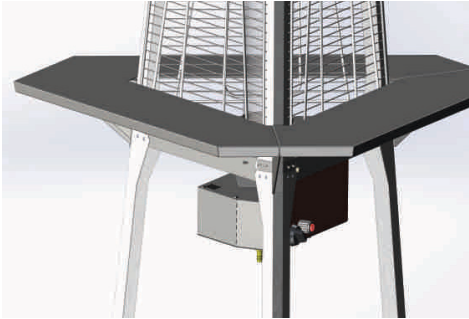

Fig. 21
8. Repeat step 7 to secure the last stand. You should get the following (Fig. 21);